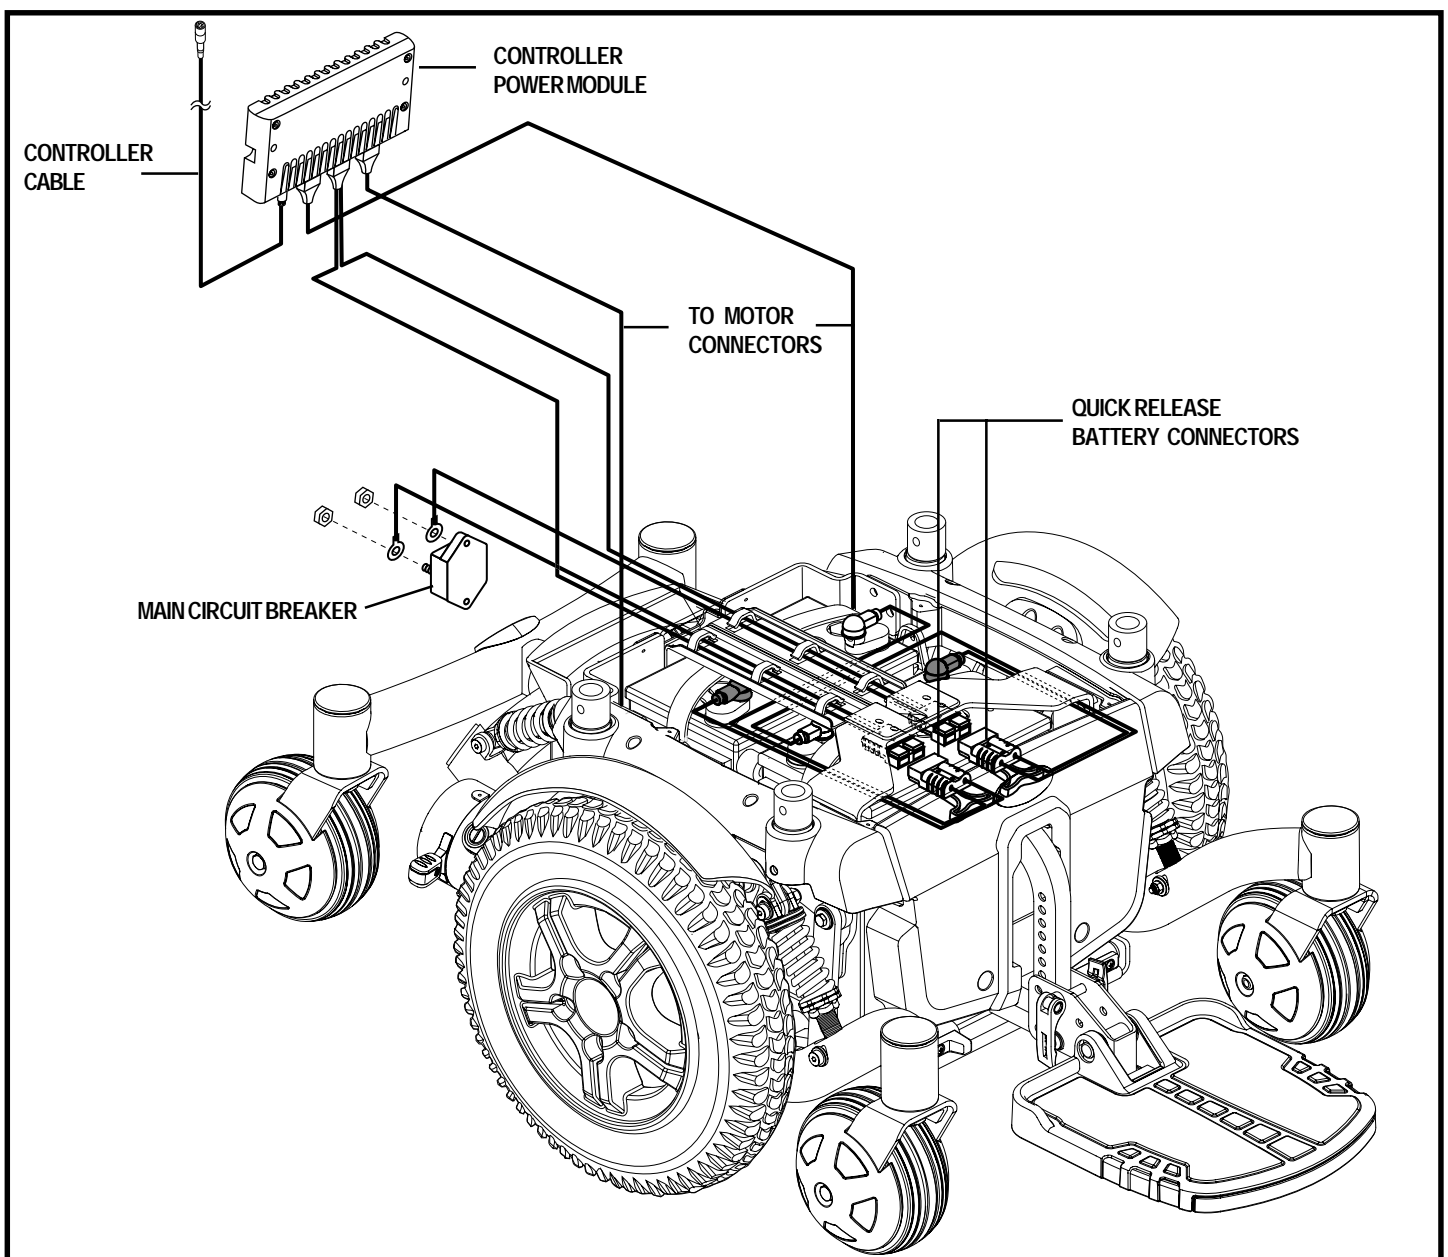

Figure 7. Quantum 6000Z Series Electrical Components
The electrical components consist of the controller assembly, the batteries, and the motors. The batteries, motors, and controller power module (if equipped) are located on the power base assembly. The controller is located on the seat assembly. Connectivity between the controller and the motors, batteries, and the battery charger is provided by one or more wiring harnesses. See figure 7.
6. Plug the controller connector into the power base. See figure 7.
4. Disconnect the controller connector(s) from the power base. See figure 7.